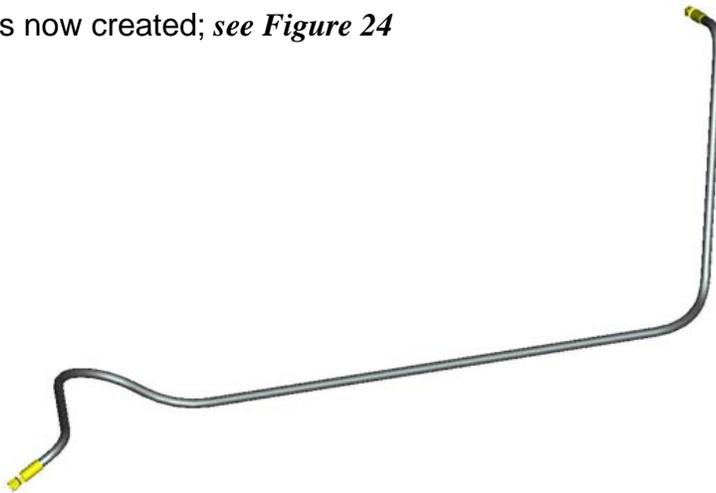

FIGURE 24: FABRICATED PIPELINE
- 8) Select **Make**, then **OK**; *see Figure 24*.
The pipe solid is now created; see *Figure 24*
Note: All circuits are labeled with proper identification numbers as described in section 8.3, table 11 and components (symbols) are labeled with required reference designators that correspond with Figures 24 and 25.